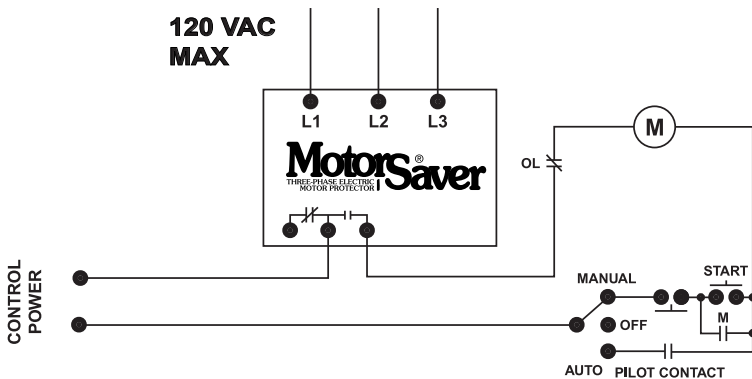

Figure No.1: Typical Motor Control Wiring Diagram
2. The MotorSaver[®] should be connected to the secondary side of a 120VAC, 5VA potential transformer. Connect the 120V three-phase secondary to L1, L2, and L3 on the MotorSaver[®] terminal strip (see Figure No. 1).
3. Connect the output relay to the circuitry to be controlled (see Figure No. 1 and Figure No. 2).